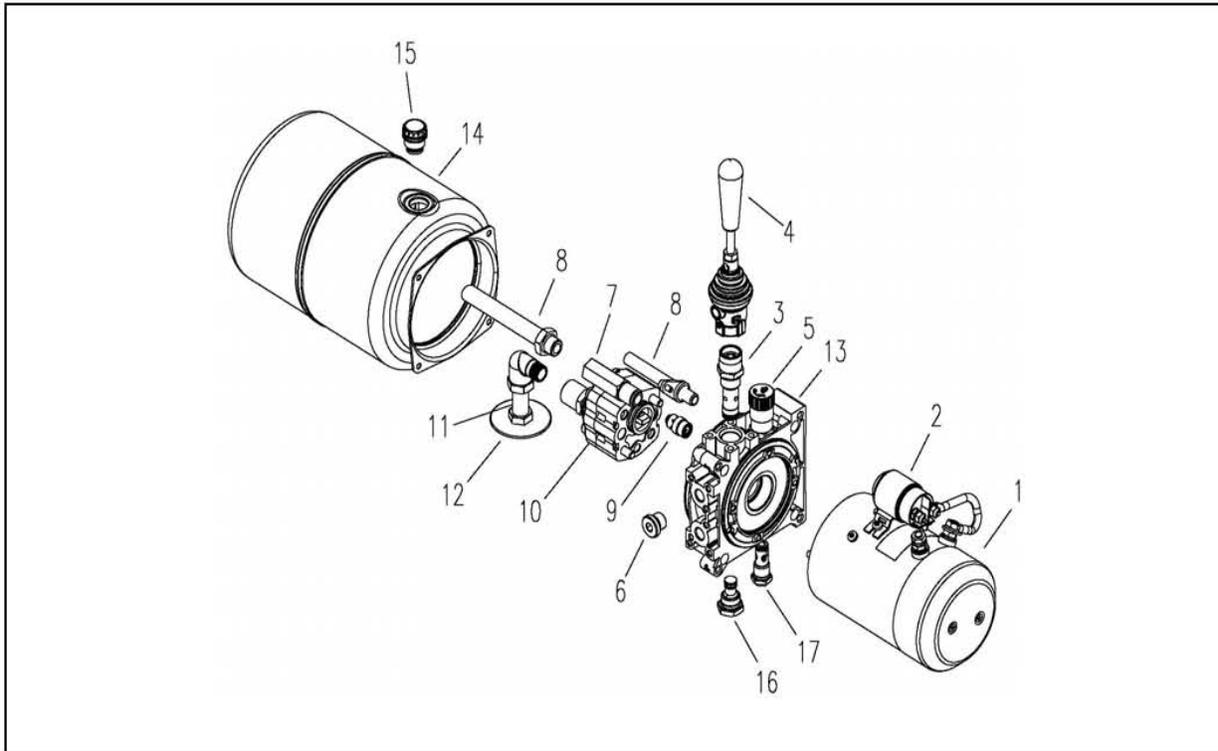

Figure 6-2 Hydraulic Pump
2. Refer to Figure 6-2 for disassembly and reassembly.